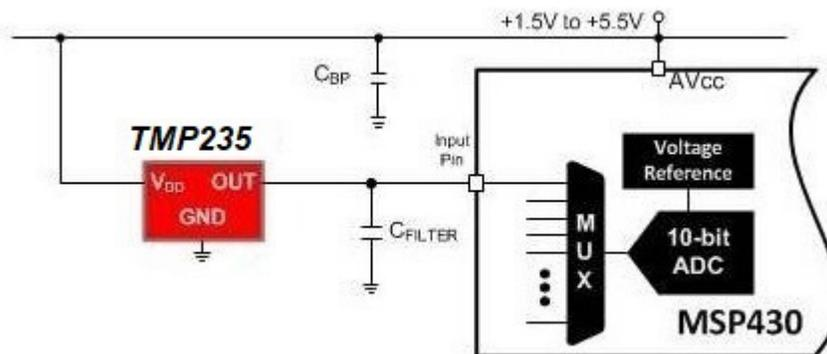

Figure 3. Example of an Analog Temperature Sensor Solution
An analog temperature sensor is an active semiconductor device whose output is a voltage or current value proportional to a temperature. As an integrated circuit (IC), an analog temperature sensor has built-in smarts that NTC thermistors do not, making designing with an analog temperature sensor simple. Figure 3 shows a typical application of one of TI’s analog temperature sensors, using just the IC without external components.